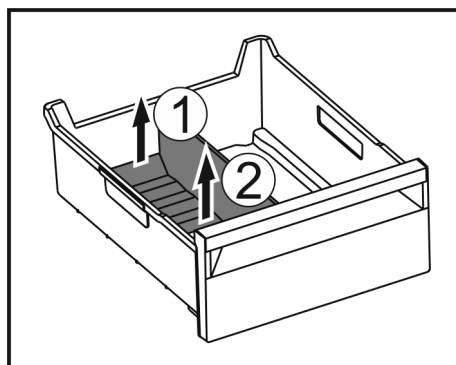

Fig. 102
- ▶ 提升冰格分隔器后部。Fig. 102 (1)
- ▶ 向上取出冰格分隔器。Fig. 102 (2)